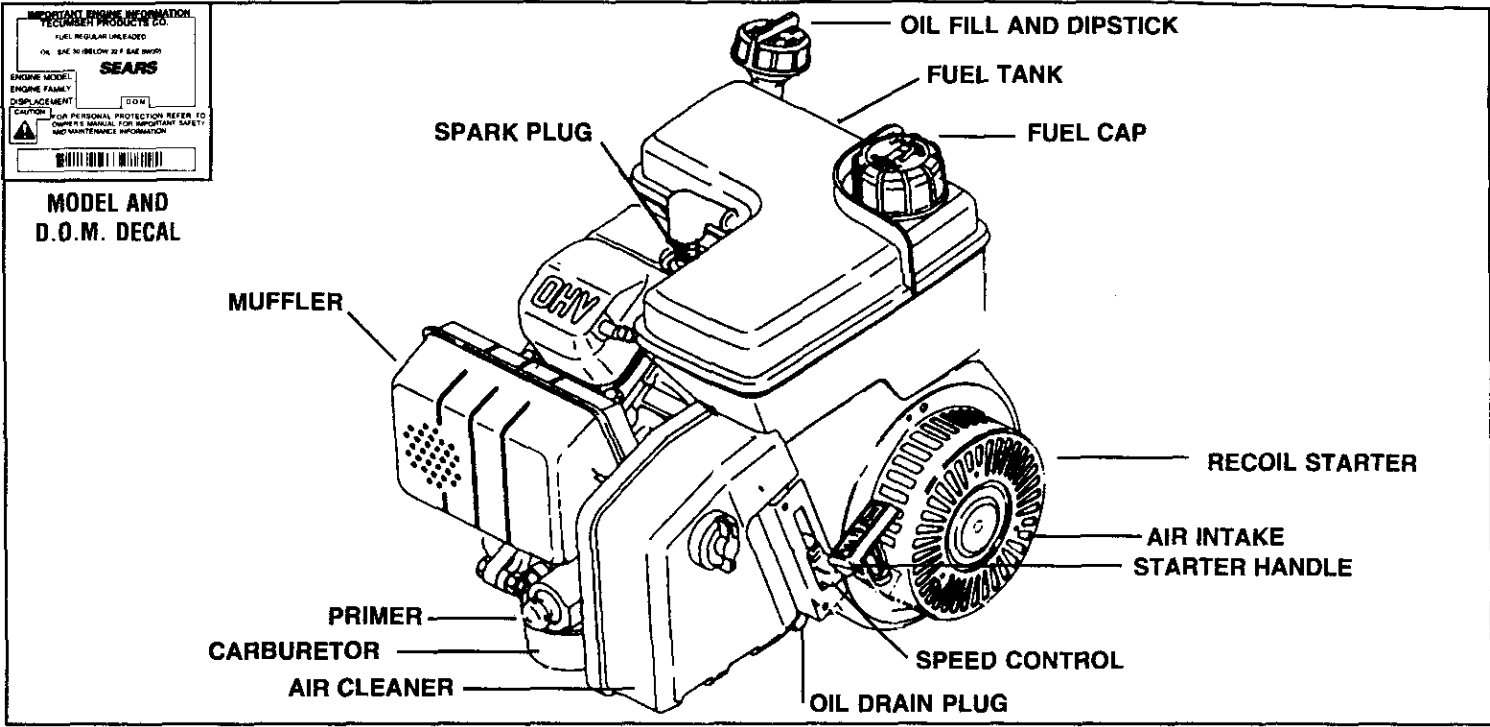

Figure 1
B. Clean area around oil fill plug (see Figure 1).
④ CHECK THE FOLLOWING:
B. Be sure spark plug wire is attached to spark plug (see Figure 1).
C. Grasp starter handle (see Figure 1) and pull rope out, slowly, until it pulls slightly harder. Let rope rewind slowly. Then pull rope with a rapid full arm stroke. Let rope return to starter slowly.
B. Clean area around drain plug (see Figure 1).